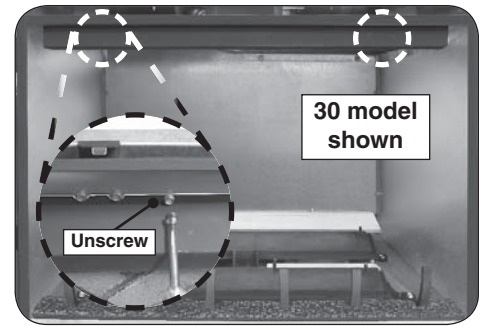

Fig. 31-1 Remove lintel
2. Remove the lintel found at the top front of the unit (to allow for liner placement). For 30 and 36 models, use a $\frac{5}{16}$ " nut driver to remove the two hex screws found on each side of the lintel. For 25 models, use a Phillips screw driver. See Fig. 31-1.